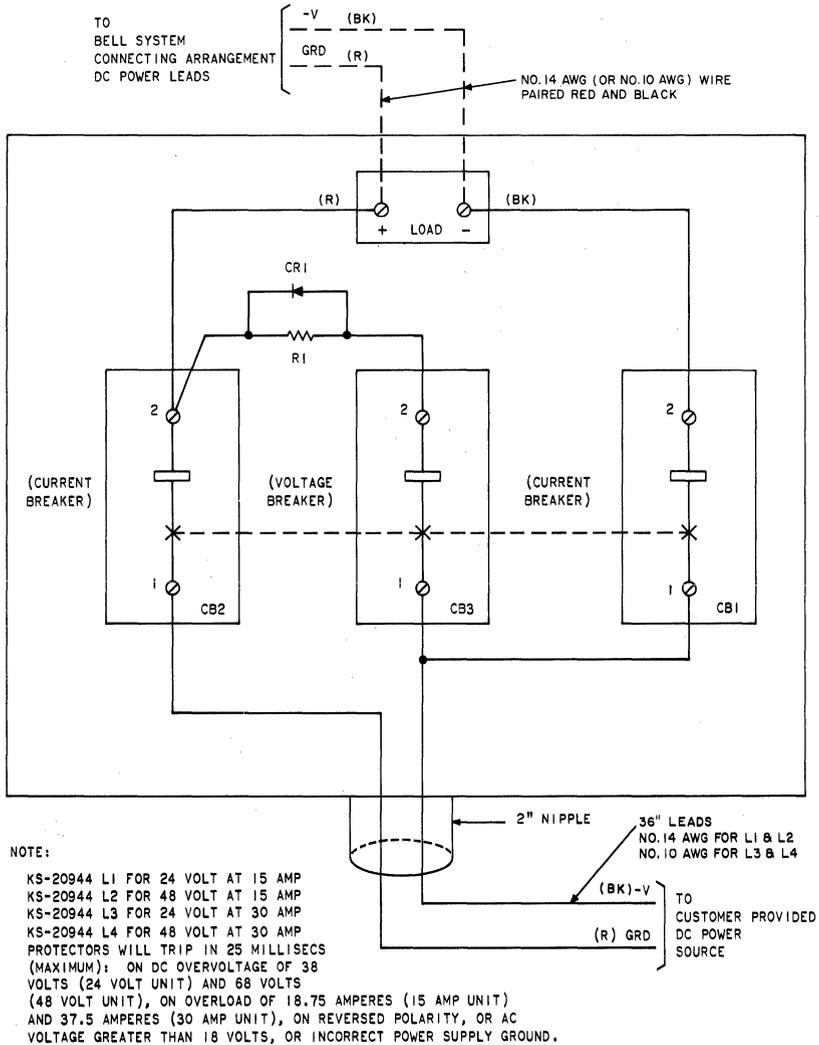

Fig. 11—Schematic Diagram—KS-20944 Protector
3.16 Connect as shown in Fig. 11 following local wiring instructions. The customer must connect his power supply to the red (GRD) and black (-V) 14-gauge wires extending from the unit.
##### B. KS-20944 Protector (Fig. 11)
**6.05** For connection information using the KS-20944, List 1 protector, refer to Fig. 11.